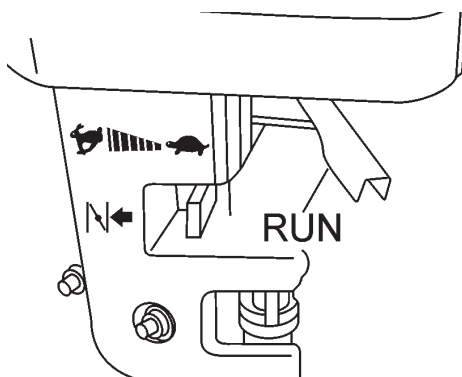

Figure 14. Throttle Lever (Run)
- To begin pumping, place the throttle lever (Figure 14) in the "**RUN**" position.